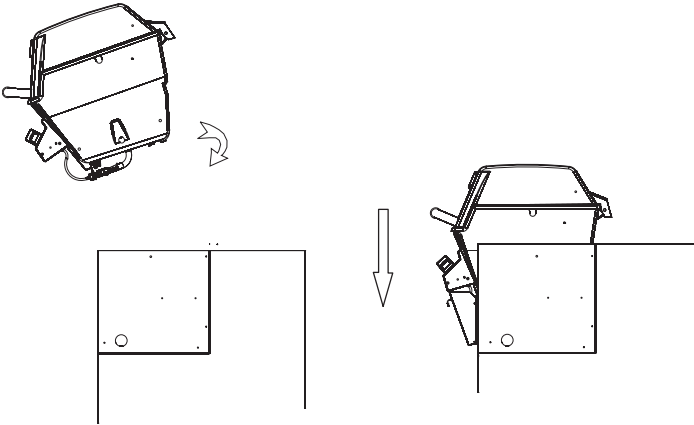

Figure 6
6. After insuring that all the contents are removed from the inside of the grill, install the grill in the BHA surround by slightly tilting the grill forward and placing it on the top of the support bracket. See Figure 6.